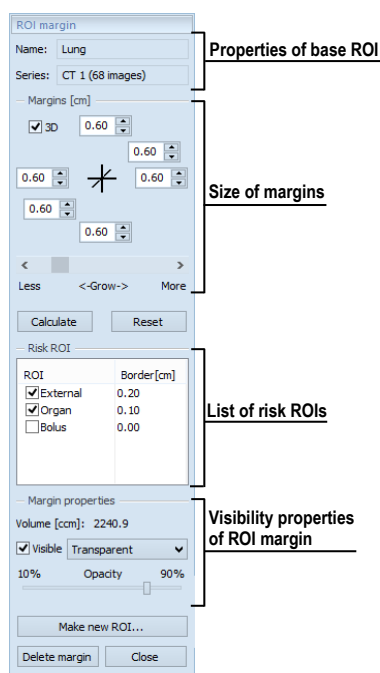

Figure 256 – ROI margin tool
3. The **ROI margin** tool is then automatically displayed as a new tab in the tools panel where you can define parameters for the ROI margin (see Figure 256).